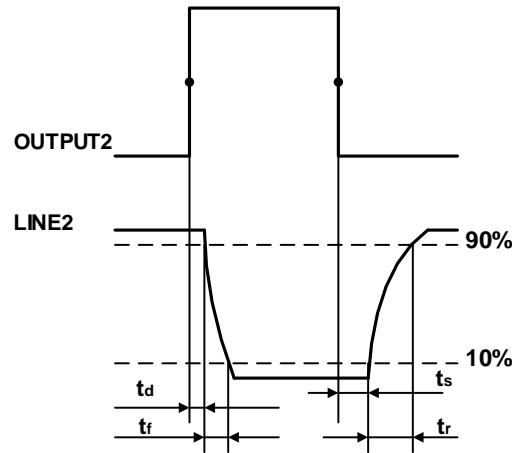

Figure 7-20 Parameter of Line2 output circuit
- Rising time delay =  $t_r + t_d$ :  $<20\mu\text{s}$  ( $0^{\circ}\text{C}\sim 45^{\circ}\text{C}$ ) (parameter description as shown in Figure 7-20)
- Falling time delay =  $t_s + t_f$ :  $<20\mu\text{s}$  ( $0^{\circ}\text{C}\sim 45^{\circ}\text{C}$ ) (parameter description as shown in Figure 7-20)